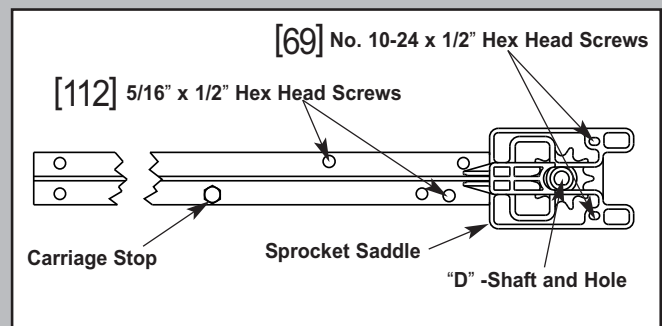

Fig. 1-3
4. **Slide drive end of boom down over "D"-shaft on top of power head (Fig. 1-3).**